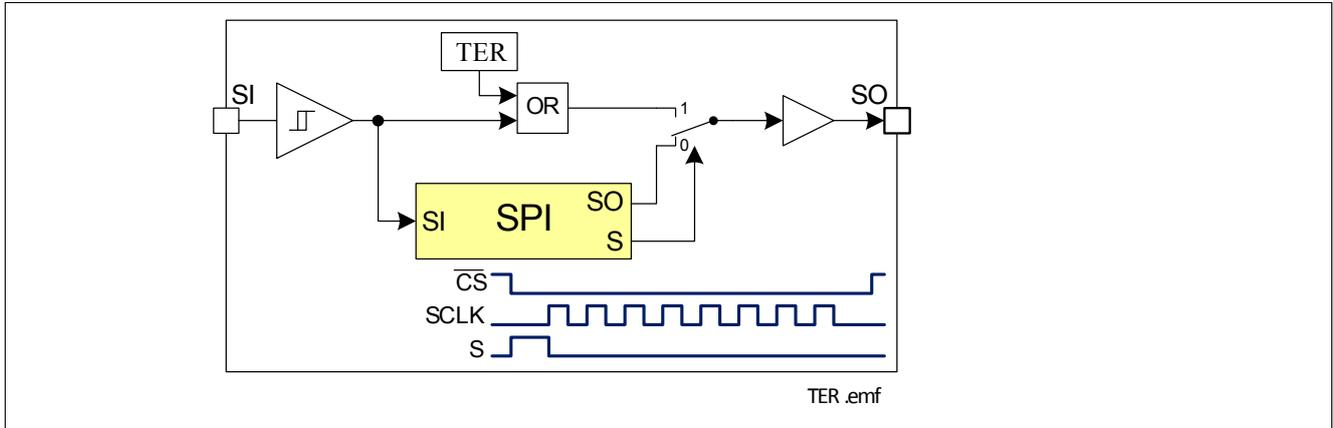

Figure 11 Transmission Error Flag on SO Line
- SO changes from high impedance state to high or low state depending on the logic OR combination between the transmission error flag ( $TER$ ) and the signal level at pin SI. As a result, even in daisy chain configuration, a high signal indicates a faulty transmission. The transmission error flag is set after any kind of reset, so a reset between two SPI commands is indicated. For details, please refer to Figure 11. This information stays available to the first rising edge of SCLK.